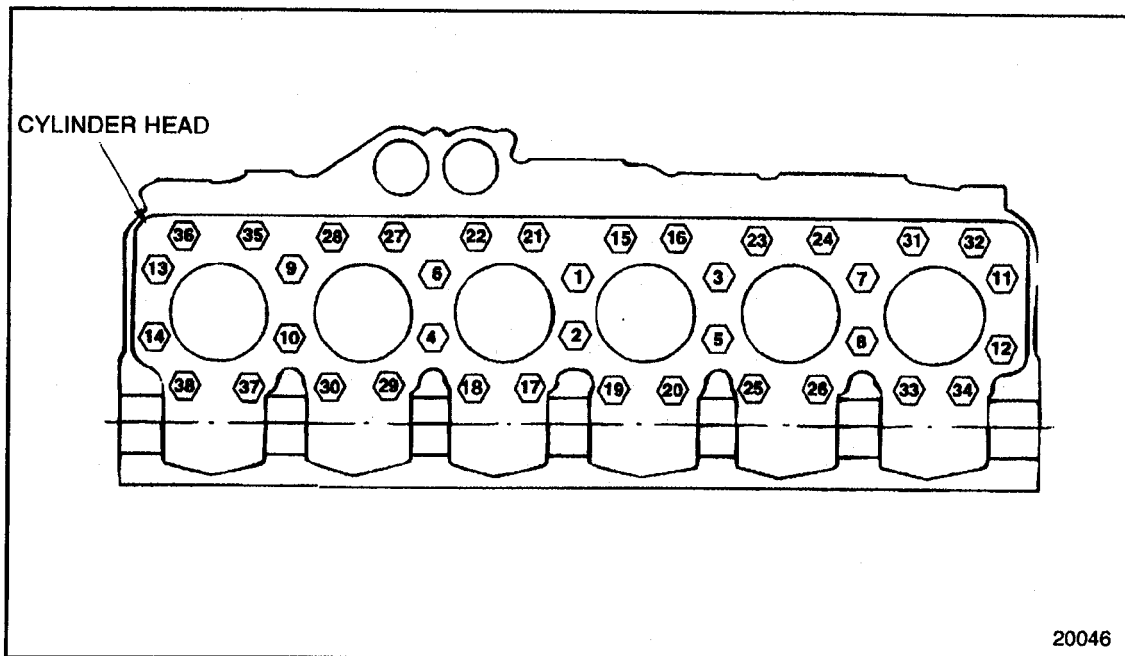

Figure 1-46 Cylinder Head Bolt Tightening Sequence
6. Torque the head bolts to 250-285 N·m (185-210 lb·ft) in the following sequence. See Figure 1-46.